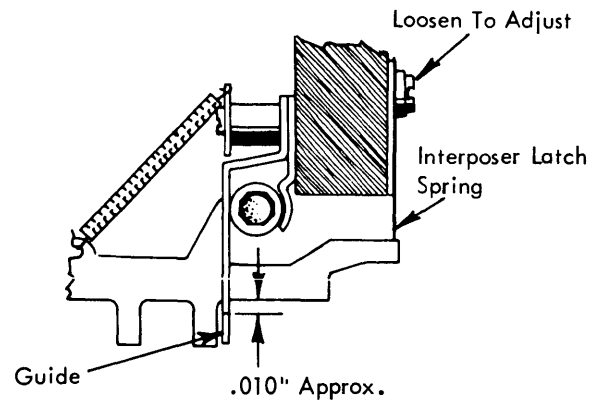

FIGURE 4. Interposer Latch Spring Adjustment
4. Interposer Latch Springs (Preliminary) With the \pm interposer (position 44) latched down, adjust the right hand end of the right hand section of latch springs so that there will be approximately $.010''$ remaining travel of the \pm interposer before it bottoms (Fig. 4). Check this clearance by pulling the interposer down with a spring hook.